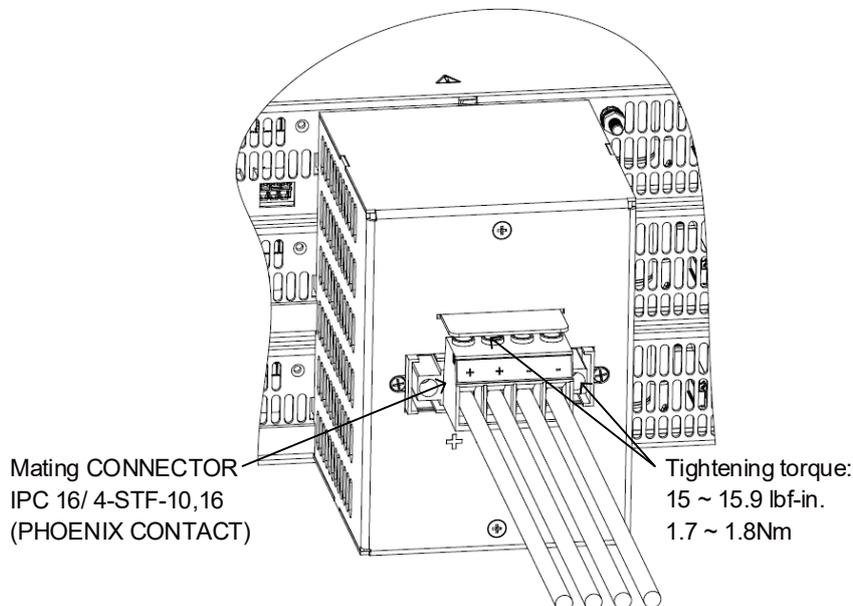

Figure 4-63: Load Wires Connection to the Output Plug
3. Insert the stripped wires into the terminals and tighten the terminal screws securely (see Figure 4-63, 15kW is shown, it applies to 10kW as well). Tightening torque: 15-15.9 Lbf-inch. (1.7-1.8Nm).
4. Tighten the mating connector to the power supply rear panel (see Figure 4-63, 15kW is shown, it applies to 10kW as well). Tightening torque: 15-15.9 Lbf-inch. (1.7-1.8Nm).